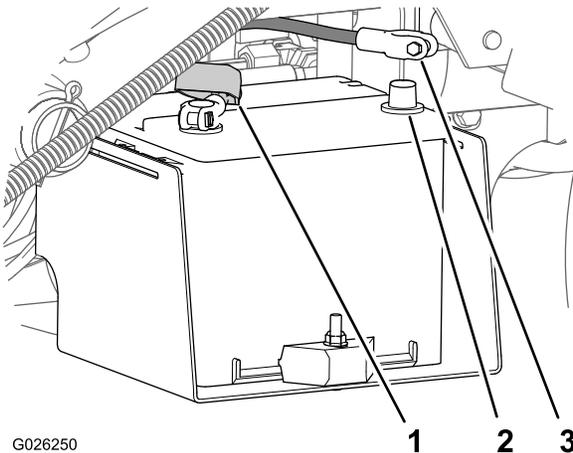

Figure 6
3. Install the positive-battery cable (red) onto the positive (+) terminal of the battery and secure the cable with the bolts and nuts (Figure 6).